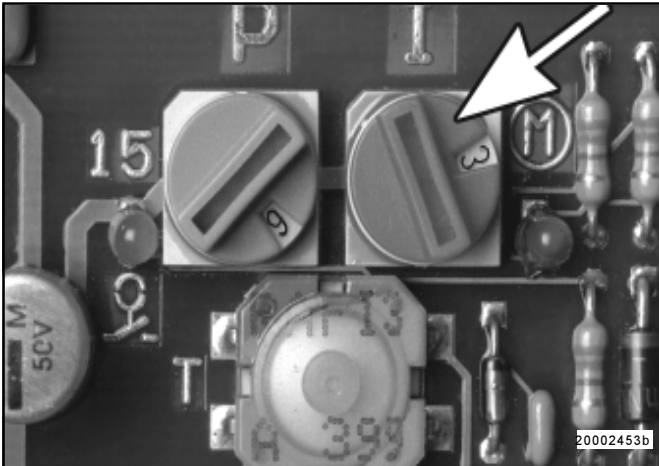

Fig.27- Rotary switch -operating time
- The time ranges can be modified by replugging the jumper (Fig.27) on the printed circuit board.